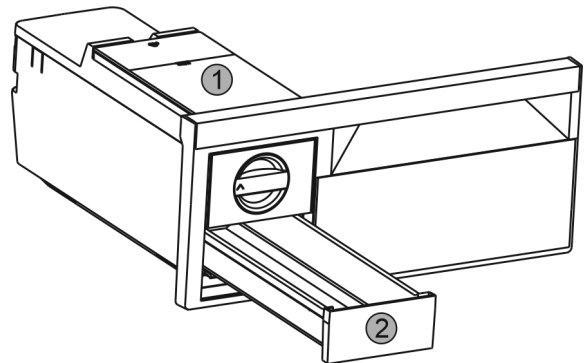

Fig. 50
- ▶ Take out the water tank Fig. 50 (1) and ice cube drawer Fig. 50 (2).